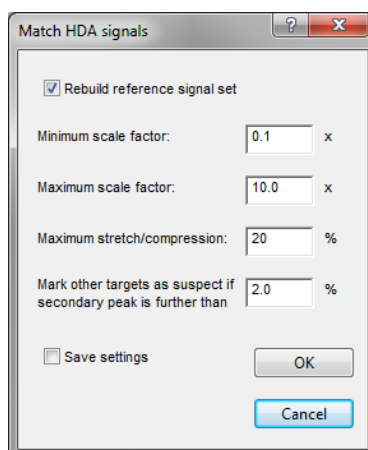

Figure 3.23: The *Match HDA signals* dialog box with HDA matching settings.
9.6 To perform the matching, select *HDA* > *Perform match*. This calls the *Match HDA signals* dialog box (see Figure 3.23).